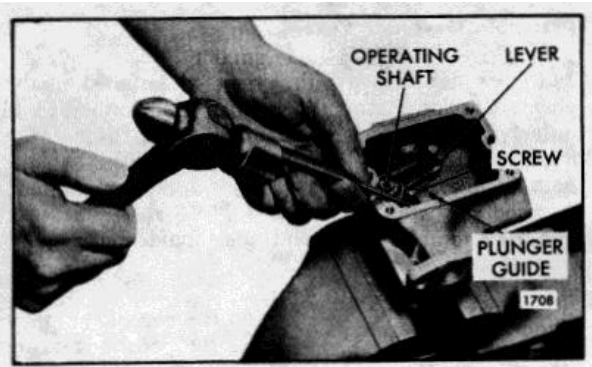

Fig. 6 - Removing Variable Speed Spring Plunger Guide
- d. Refer to Fig. 6 and remove the variable speed spring plunger guide. Remove the bearing retaining screw, flat washer and lock washer.
8. Refer to Fig. 6 and insert the variable speed spring plunger guide in the control housing.